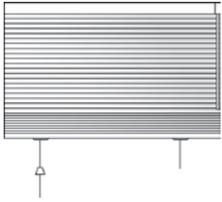
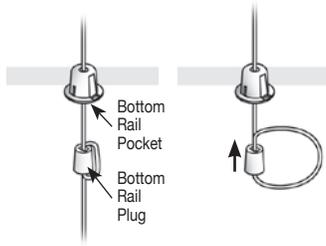

Figure 1
Figure 2
2. Position the headrail with the front lip resting on the top hooks of all the brackets (Fig. 1). Make sure that no fabric is pinched between the brackets and the headrail.
3. Push the bottom of the headrail firmly upwards and toward the window until the groove at the bottom of the headrail snaps into place, as shown (Fig. 2).
2. If adjustments are necessary, pull the excess cord at the bottom of the shade down until the Bottom Rail Plug is released (Fig. 1). Push the cord up through the Bottom Rail Plug (Fig. 2).